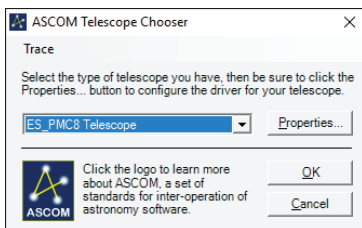

Figure 1. ASCOM Telescope Chooser window.
18. The ASCOM Chooser window will display. Find and select "ES_PMC8 Telescope" in the drop-down list. (Figure 1.)